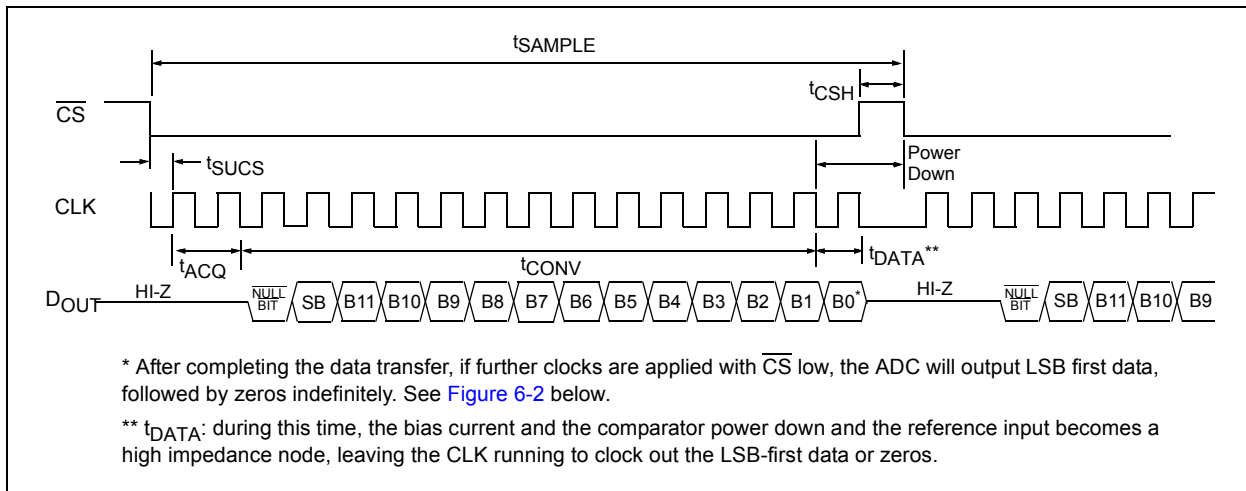

FIGURE 6-2: Communication with MCP3301 (MSB first Format).
The SPI clock pin is used to initiate a conversion, as well as to clock out each bit of the conversion as it takes place. See Section 5.2 "Driving the Analog Input" for constraints on clock speed, and Figure 6-2 for serial communication protocol.
**Acquisition Time** - The *acquisition time* is defined as the time during which the internal sample capacitor is charging. This occurs for 1.5 clock cycles of the external CLK as defined in Figure 6-2.
**Conversion Time** - The *conversion time* occurs immediately after the *acquisition time*. During this time, successive approximation of the input signal occurs as the 13-bit result is being calculated by the internal circuitry. This occurs for 13 clock cycles of the external CLK as defined in Figure 6-2.
12 remaining data bits, as shown in Figure 6-2. Data is always output from the device on the falling edge of the clock. If all 13 data bits have been transmitted and the device continues to receive clocks while the  $\overline{CS}$  is held low, the device will output the conversion result LSB first, as shown in Figure 6-3. If more clocks are provided to the device while  $\overline{CS}$  is still low (after the LSB first data has been transmitted), the device will clock out zeros indefinitely.